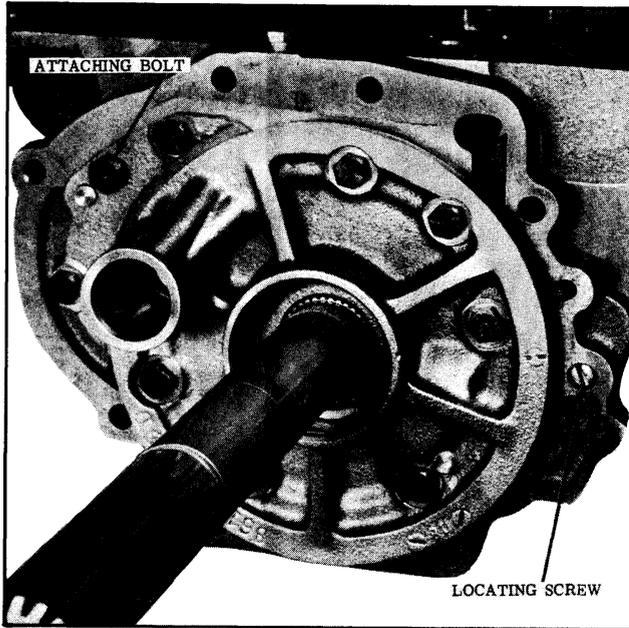

Fig. 3-135 Rear Oil Pump
10. Install rear pump assembly on transmission case. Install locating screw and attaching bolt. (See Fig. 3-135)